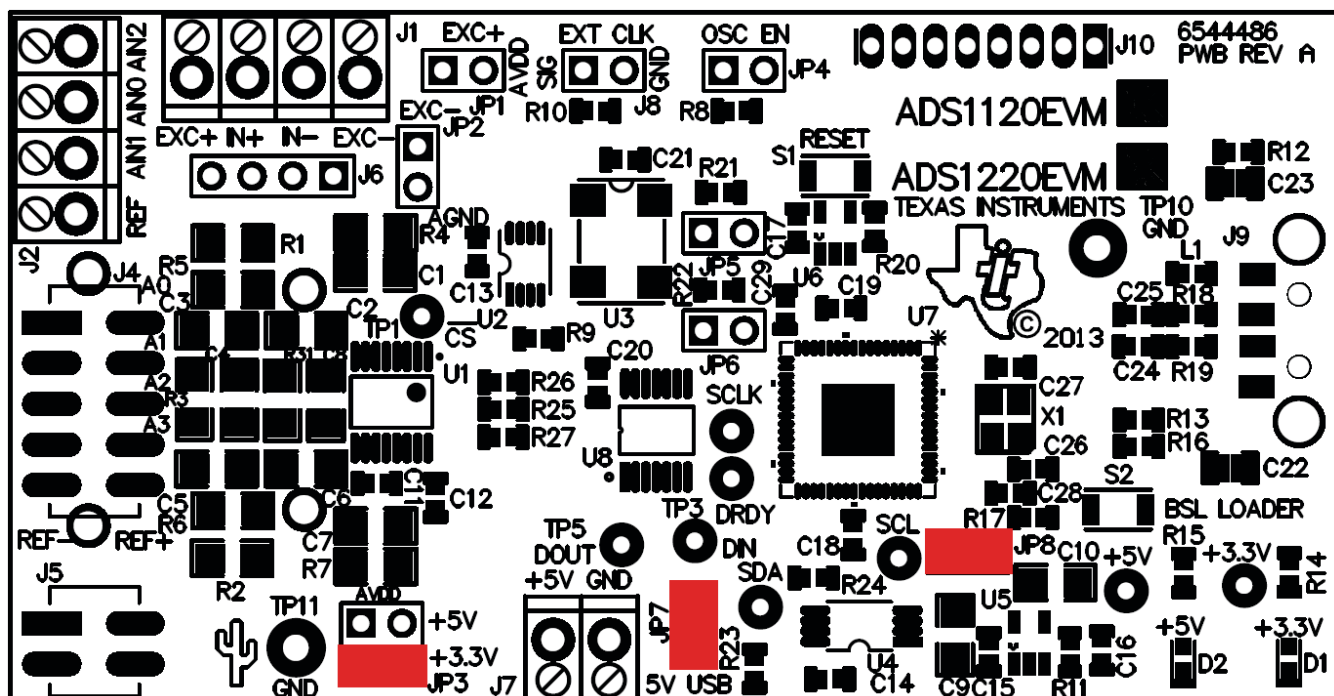

Figure 1. ADS1220EVM Default Jumper Locations
Figure 1 shows the jumpers found on the EVM and the respective factory default conditions for each.
1. Verify the jumpers on the ADS1220EVM are as shown in Figure 1 (note that these settings are the factory-configured settings for the EVM).